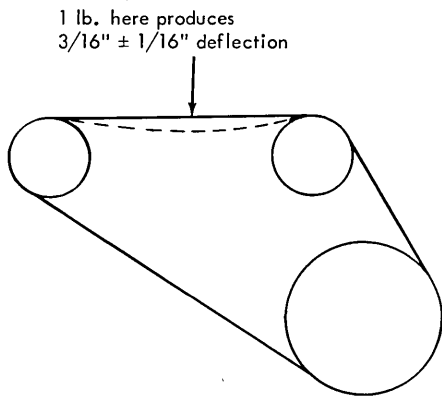

Figure 9. Contact Roll Belt Tension
9. Replace contact roll drive belt. Adjust tension in accordance with figure 9. *Warning:* Before running machine, remove timing tool and make certain keeper is behind arm.